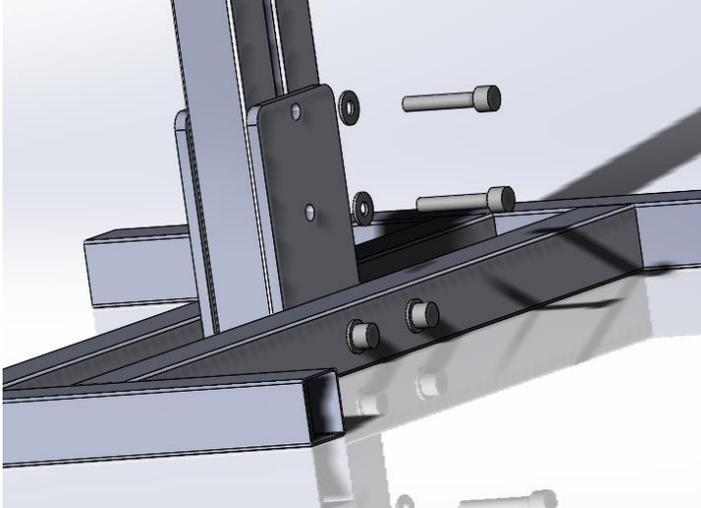

Figure 4
2. Attach the Upright to the base by using 2ea 7/16-14 x 3 Socket Head Cap Screws and 2ea 7/16 Black Hardened Washers through the 2 mounting plates, as shown in Figure 4.